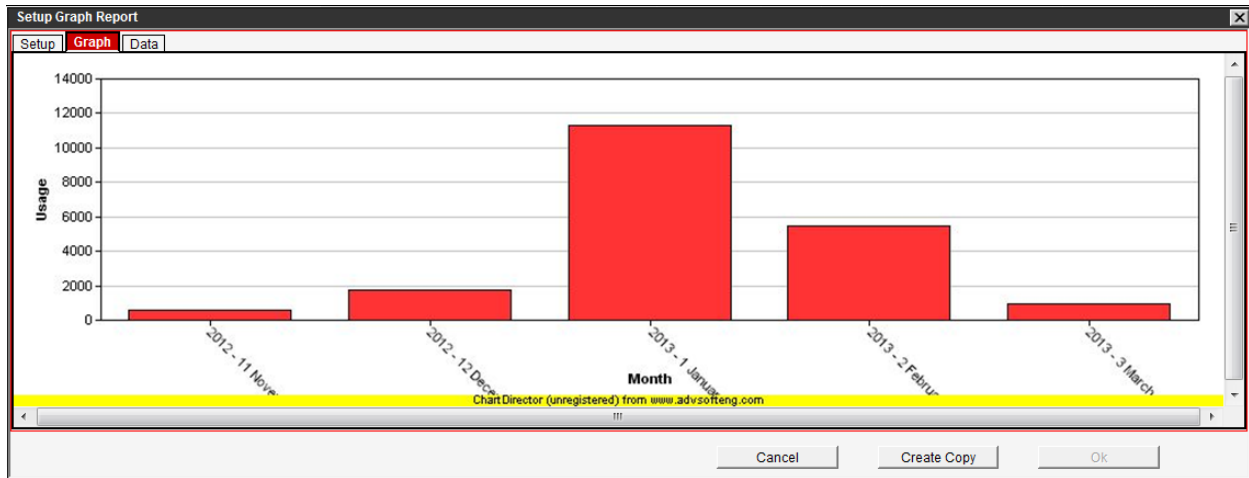

Figure 2-12. Setup Graph Report Dialog Box – Graph Tab Example
3. Select the **Graph** tab (Figure 2-12) to display the data in a Graph report.